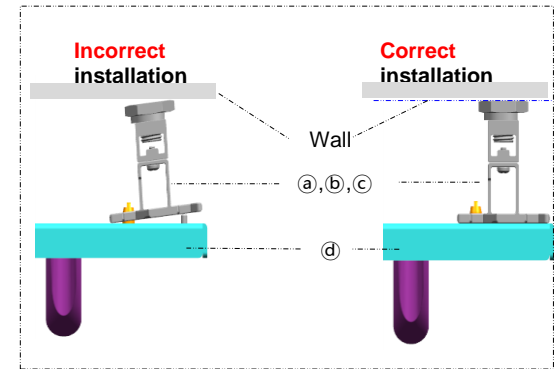

Fig4. Keeping frames parallel
- ※ Caution: The surface ④ should be attached to ① and ②. The three surfaces (the wall, ① and ②, and ④) should be in parallel. (See Fig.4.)
④ Use the same steps above to install all ⑥ Bracket Middle, in the left-to-right order.